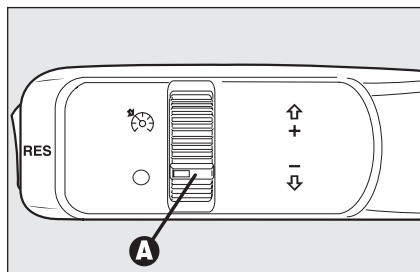

fig. 50
Turn knurled ring **A-fig. 50** to .
- ☐ turn the knurled ring **A-fig. 50** to  and press the accelerator pedal to the required speed;
- ☐ turning the knurled ring **A**-fig. 50 to **O**;
*In the event of device malfunction or failure, turn the knurled ring **A**-fig. 50 to **O** and contact Alfa Romeo Authorized Services after checking the protection fuse integrity.*